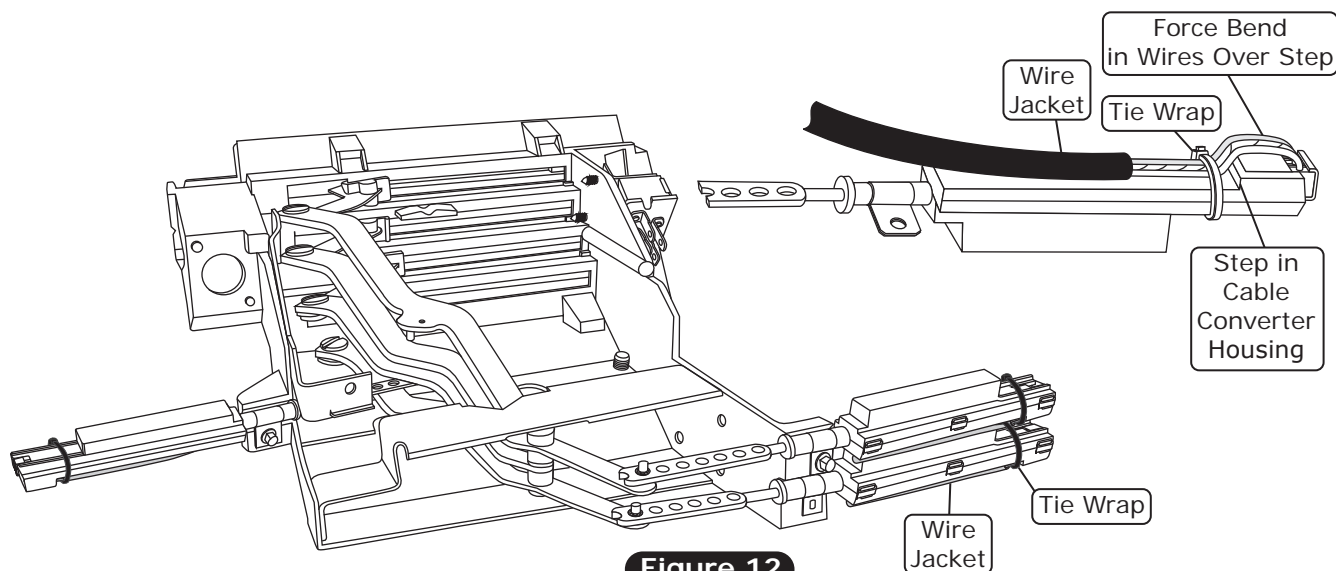

Figure 12
2. Once the connector is correctly plugged into the cable converter assembly, secure the wires to the cable converter assembly using the supplied tie wraps (See Figure 12, below). The tie wrap must be located between the end of the wire jacket and the step in the cable converter housing, forcing a bend in each wire as it passes over the step in the cable converter housing. The head of the tie wrap must fall on the edge of the housing to remain tight. Ensure that the tie wraps are tight enough that the wires cannot move (See Figure 12, below).